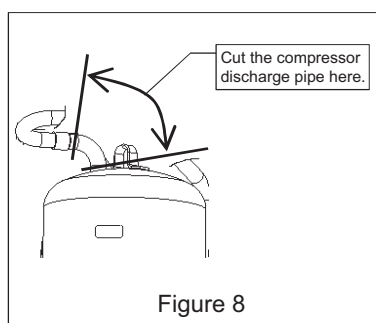

Figure 8
- (8) Remove the compressor discharge pipe by cutting the pipe where indicated in Figure 8 or by removing the braze.